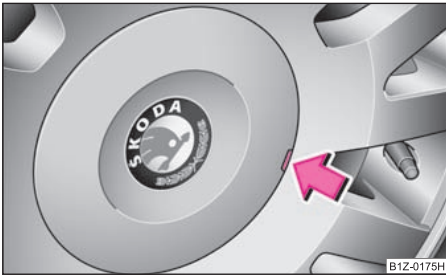

Fig. 168 Pulling off wheel trim cap on light alloy wheels
- Carefully remove the wheel trim cap using the wire clamp ⇒ fig. 168. ■